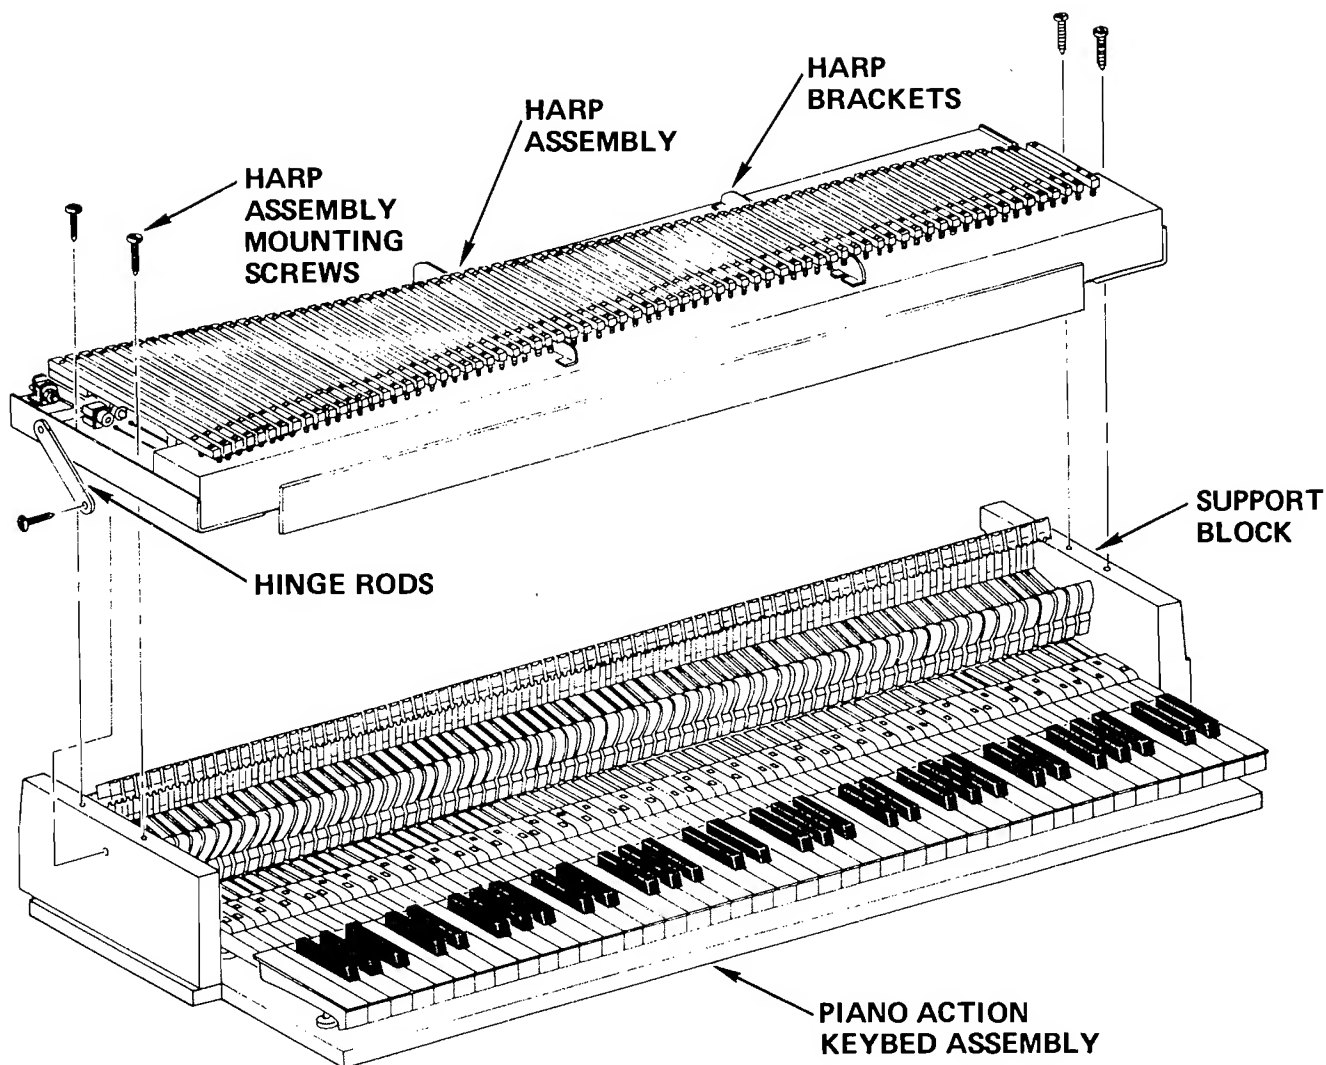

Figure 10-2. RHODES Early Design Harp/Action Assembly — Exploded View
- (1) Remove the two Side Support Blocks (Figure 10-2).